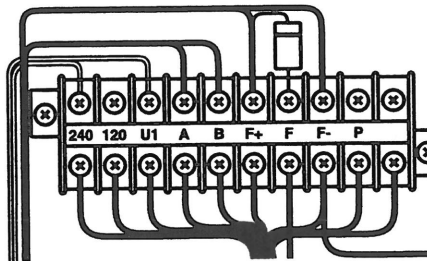

Figure 27: Control Terminal Board, 240 Volt Output
- 240 volt output can be selected by connecting the terminals of the control terminal board to 240 (Figure 27).